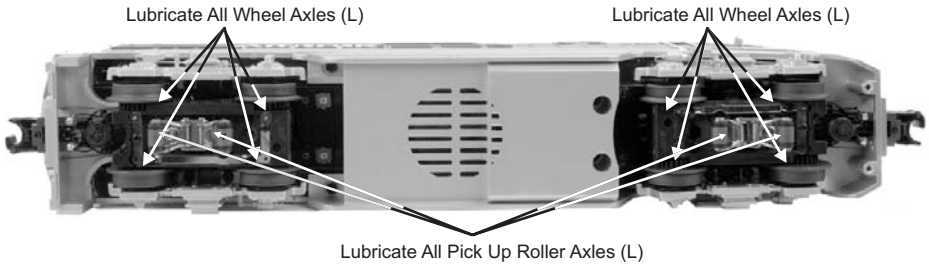

Figure 8: Lubrication Points on the Locomotive
1. To access the gear box, remove the cab from the chassis by unscrewing the body mount screws and motor mount screws as seen in fig. 8 & 9 and lifting the cab from the chassis.
2. Once the cab is removed, remove the trucks by unscrewing the black Phillips motor mount screw located on the underside of the drive trucks (fig. 8).